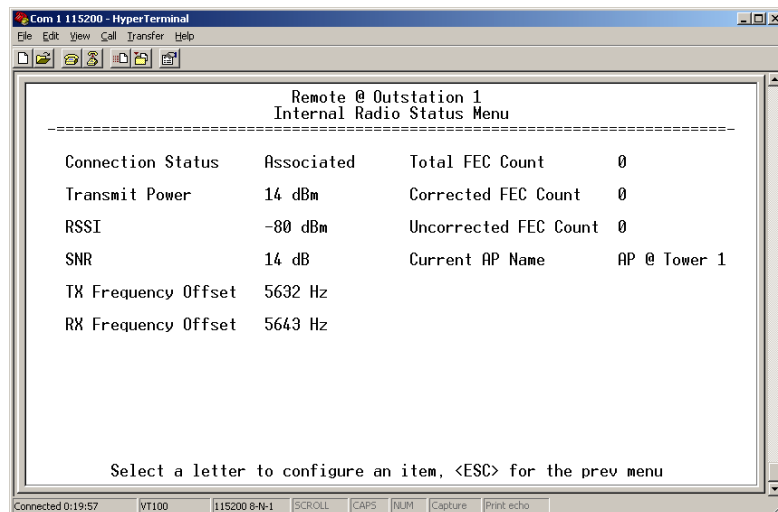

Figure 3-49. Internal Radio Status (Remote Only)
- **Internal Radio Status (Remote Only)**—Shows connection status, RF parameters, and total FEC count for the unit. (See Figure 3-49 for details.)